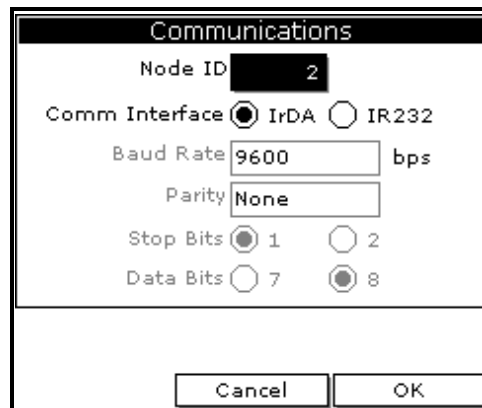

Figure 57: Communications Window
3. Use the arrow key to scroll to Communication and press **[ENTER]**. The Communications window appears similar to Figure 57.